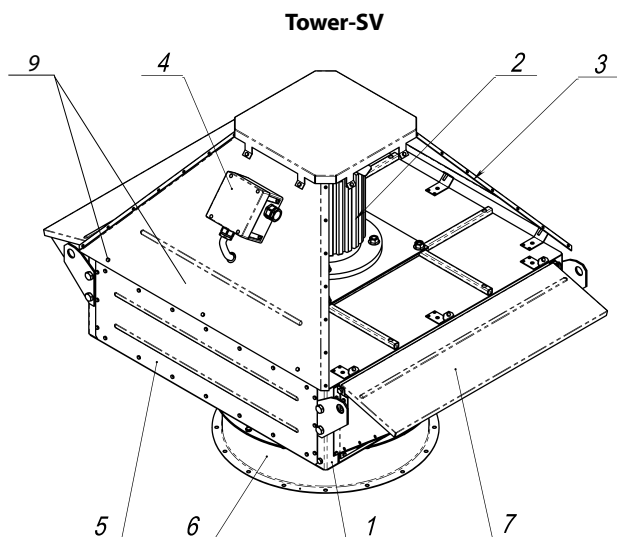

Fig. 3
Connection sequence: remove the protective hood (item 3, fig. 3, 4) after removing the screws (item 9, fig. 3, 4) which fix it.